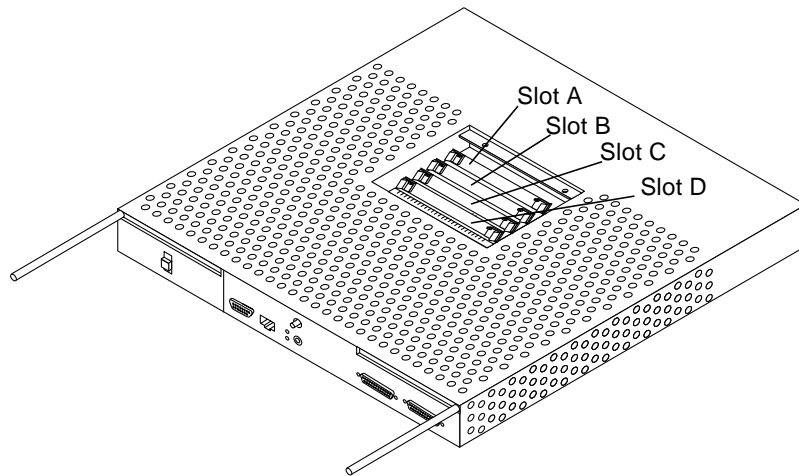

FIGURE 3-9 A1000 Controller—Empty SIMM slots
- b. Remove the SIMMs from slot B and slot A (FIGURE 3-9).
6. Replace the 8 Mbyte SIMMs into slot A and slot B (FIGURE 3-9).
7. Remove the two 32 Mbyte SIMMs from the antistatic packaging. Install them into slot C and slot D (FIGURE 3-9).